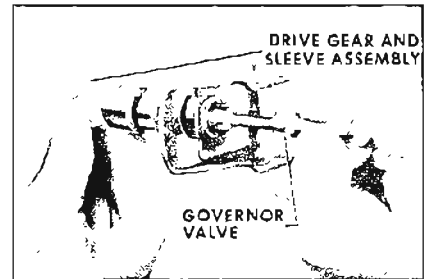

Figure 5-246
1. Install governor valve into drive gear and sleeve assembly. See Figure 5-246.